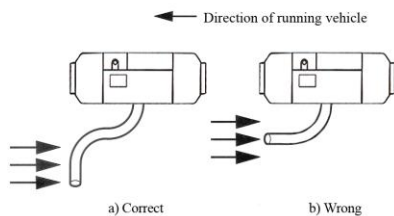

Fig. 23
4.6.4 The openings of the pipes shall not be opposite to the direction of the running vehicle. (Fig. 23)